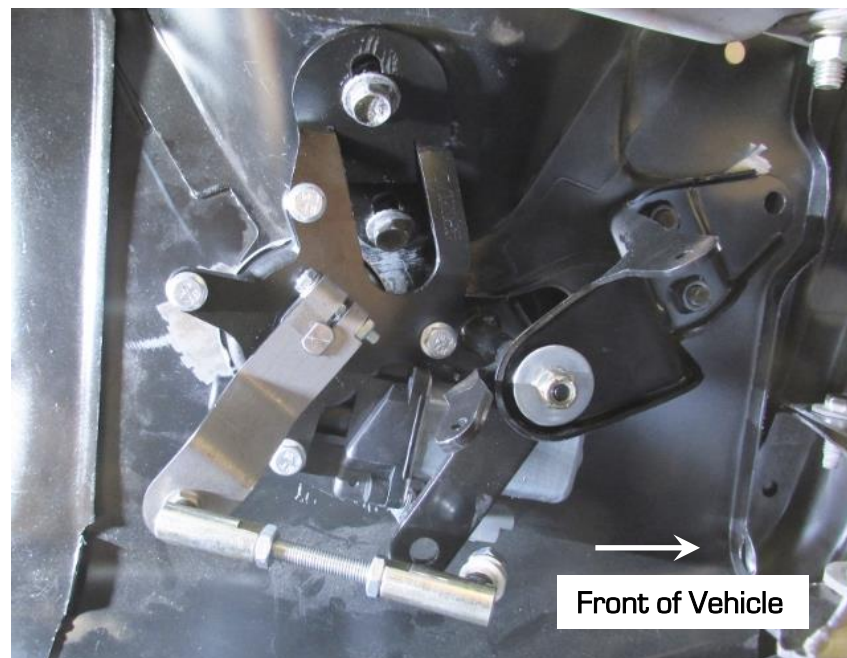

Figure 10 - Install Actuator Assembly
3. Using a 1/2" socket, remove these two bolts and position the actuator and bracket assembly. The actuator should point forward and pitman arm should be on the bottom side of the bracket. The holes are slotted so that the actuator assembly can be aligned with the bellcrank of the RS headlight assembly. Reinstall the two bolts using a 1/2" wrench and socket to attach the actuator to the vehicle (Figure 10). **NOTE:** Position the actuator/bracket so that the pitman arm can pass underneath the splash guard bracket without contact. If you plan on using the splash guard you will need to trim it as necessary to clear the pitman arm.